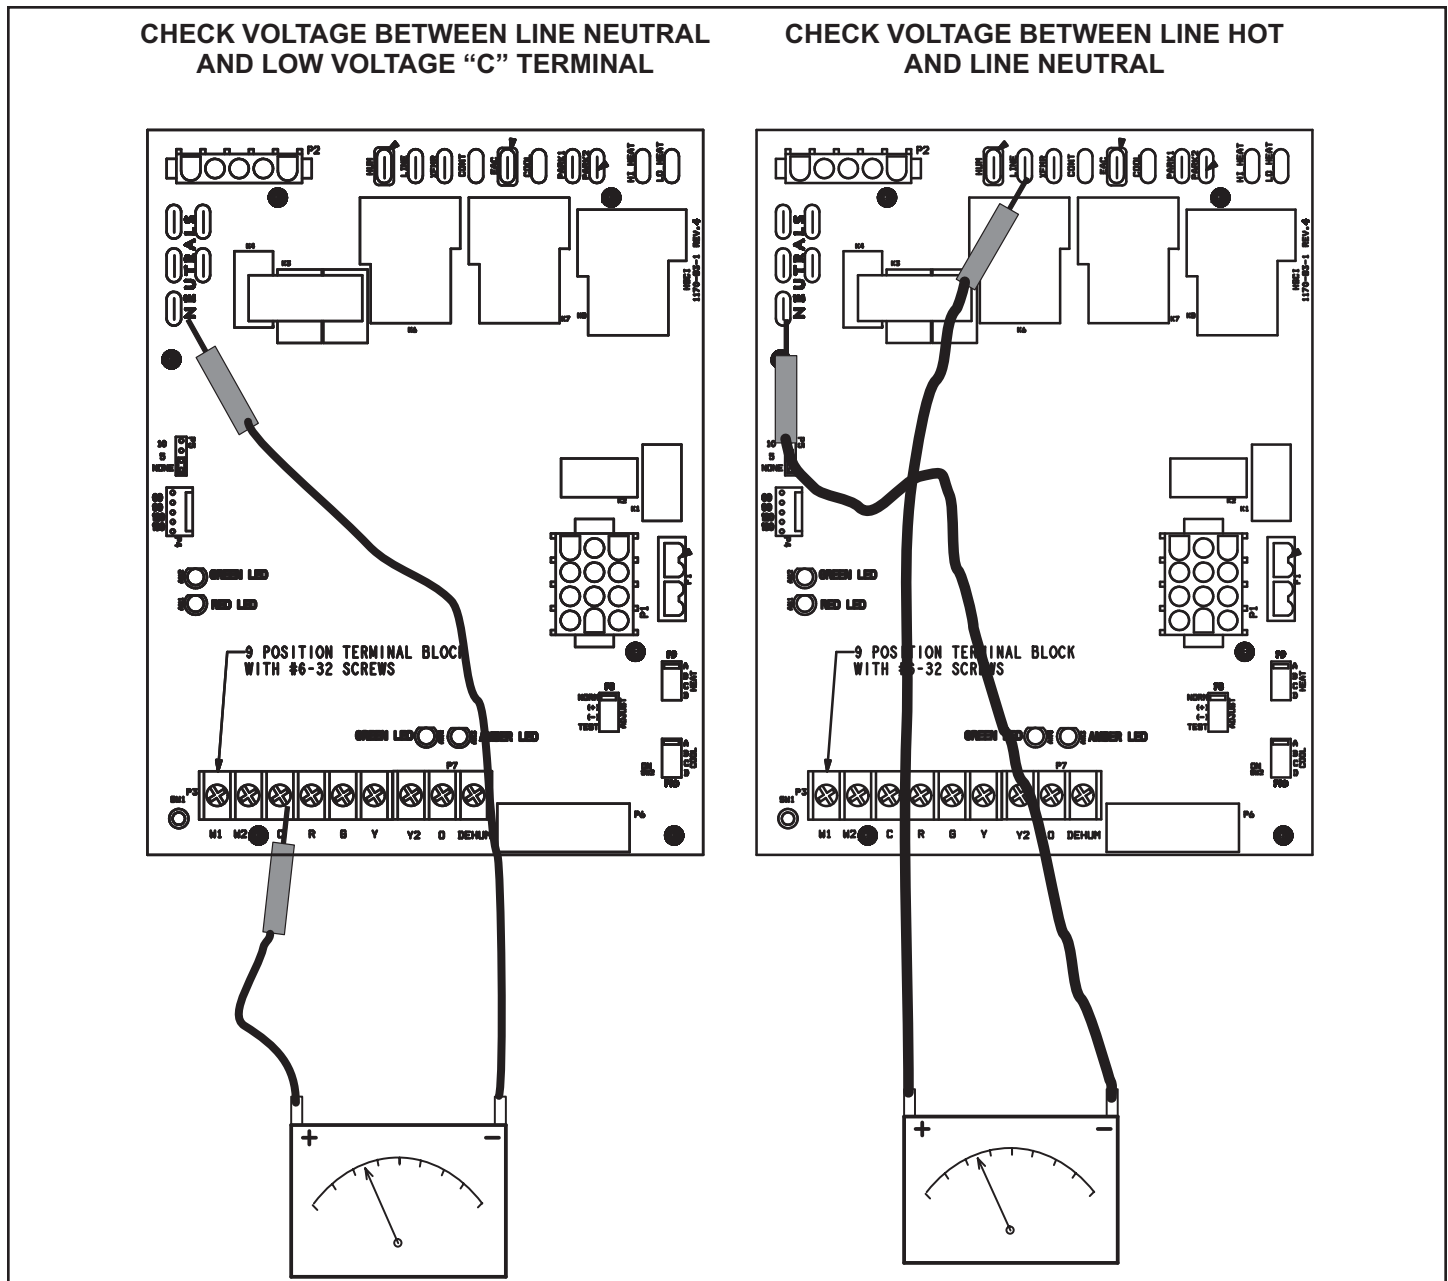

Figure 48.
1. Measure the AC voltage between Line Neutral (spade terminals) and "C" terminal (low voltage terminal block) on the integrated control. See Figure 48. A wide variation in the voltage between Line Neutral and "C" as a function of load indicates a poor or partial ground. Compare the readings to Table 16. If the readings exceed the maximum shown in Table 16, make repairs before operating the furnace.
2. In addition, measure the AC voltage from Line Hot to Line Neutral (spade terminals) on the integrated control. See Figure 48. This voltage should be in the range of 97 to 132 VAC